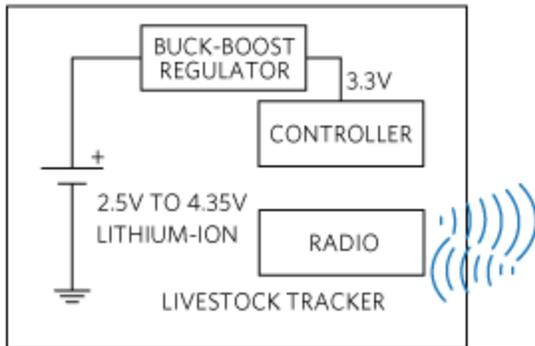

Figure 2. Livestock tracker block diagram.
**Figure 2** shows a typical livestock asset tracker block diagram. The nonrechargeable Li+ battery supplies a charge of 200mAh. A buck-boost regulator powers the on-board controller and radio.